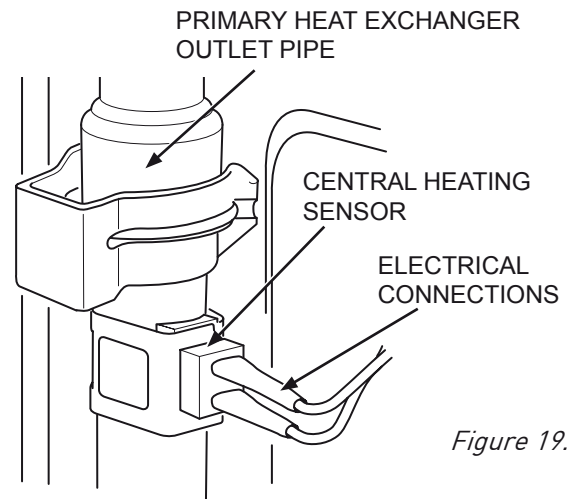

Figure 19.1
- The c/heating sensor is located on left side of the combustion chamber on the outlet of the primary heat exchanger. (*Figure 19.1*)